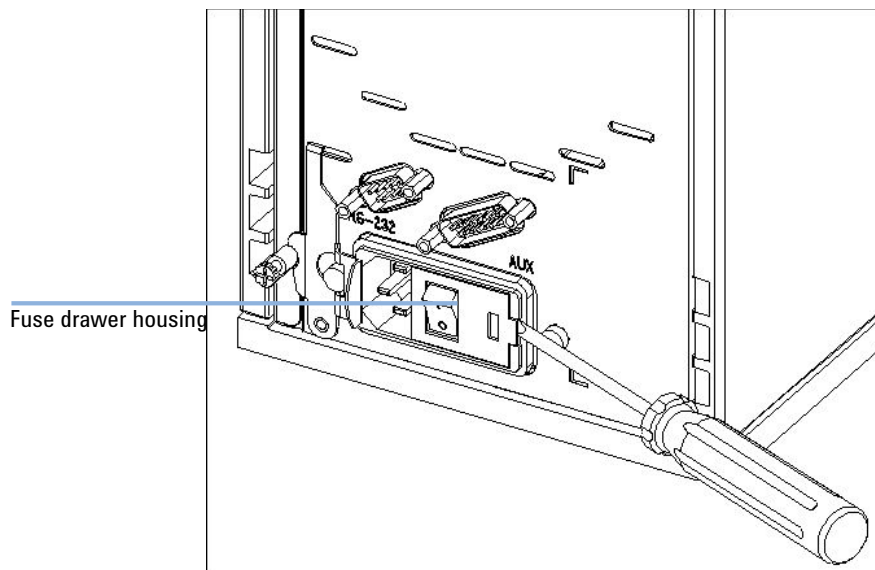

Figure 10 Remove power inlet housing
- 3 To access the fuse drawer, gently lift the outer plastic housing of the power inlet socket using a screw driver, see Figure 10 on page 140.